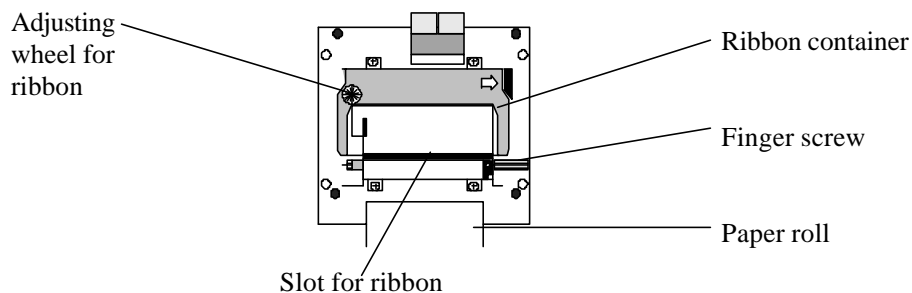

Fig. 4: Location of the finger screw on the printer
3. Before a new ribbon is installed, tighten the ribbon by means of the adjusting wheel (fig. 4).